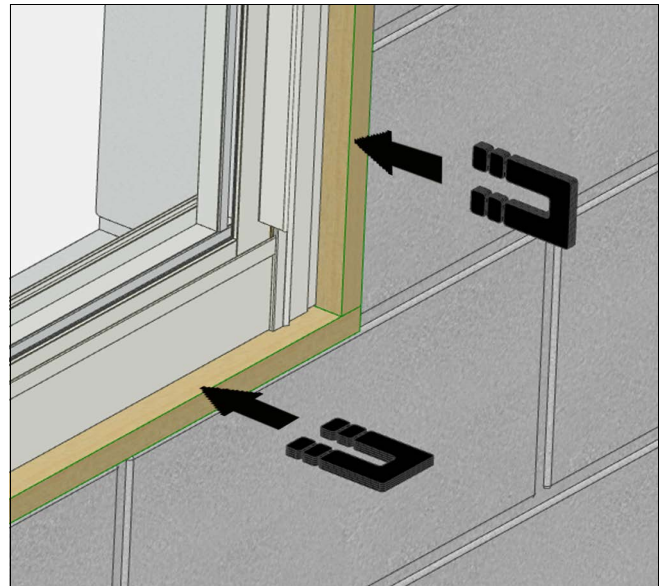

Figure 10
2. Lift and place the unit into the opening, with the flange securely against the opening surface. Then add shims to each corner to initially pin the unit. See Figure 10.